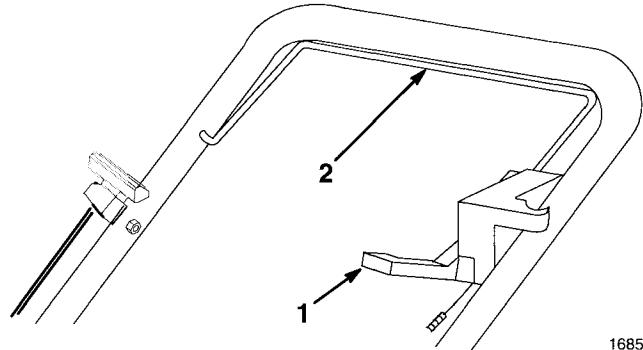

Figure 13
2. SELF-PROPELLED MODELS ONLY—Move traction control lever forward (toward engine) (Fig. 13).
1. Move traction control lever forward (toward engine) and squeeze control bar until it contacts handle (Fig. 13).